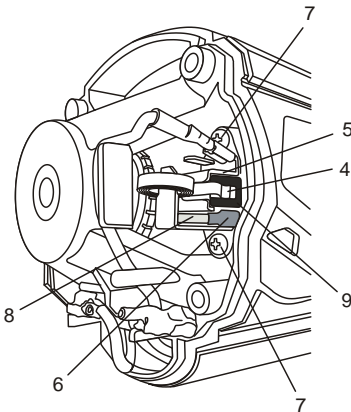

Fig. 8
NOTE: Pay attention to the position of the braided copper brush wire (8) (Fig. 8). When the new carbon brush is reinstalled, the braided brush wire **MUST** be placed in exactly the same position.
3. Use a small slot screwdriver to lift the end of the coil spring (4) upward and place it on the edge of the copper brush holder (5).
4. Use small needle nose pliers to pull the top spade connector (6) from the spade terminal.
5. Turn the two brush holder screws (7) counter clockwise about 4 turns using a #2 \oplus screwdriver.
- b) Make sure the end of the coil spring is placed on top of the carbon brush (Fig. 8).